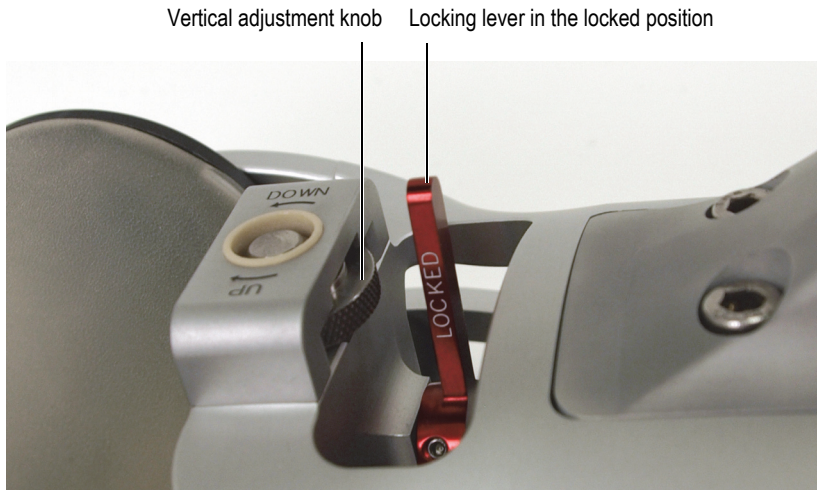

Figure 4-3 Locking the middle wheel
3. Lock the middle wheel's position by moving the locking lever to the LOCKED position (Figure 4-3 on page 60).